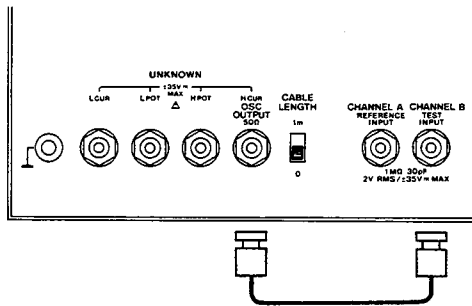

Figure 5-11. A11 IF Attenuator Adjustment Setup.
- a. Connect OSC OUT (H_{CUR}) to CHANNEL B using the BNC-to-BNC cable as shown in Figure 5-11.